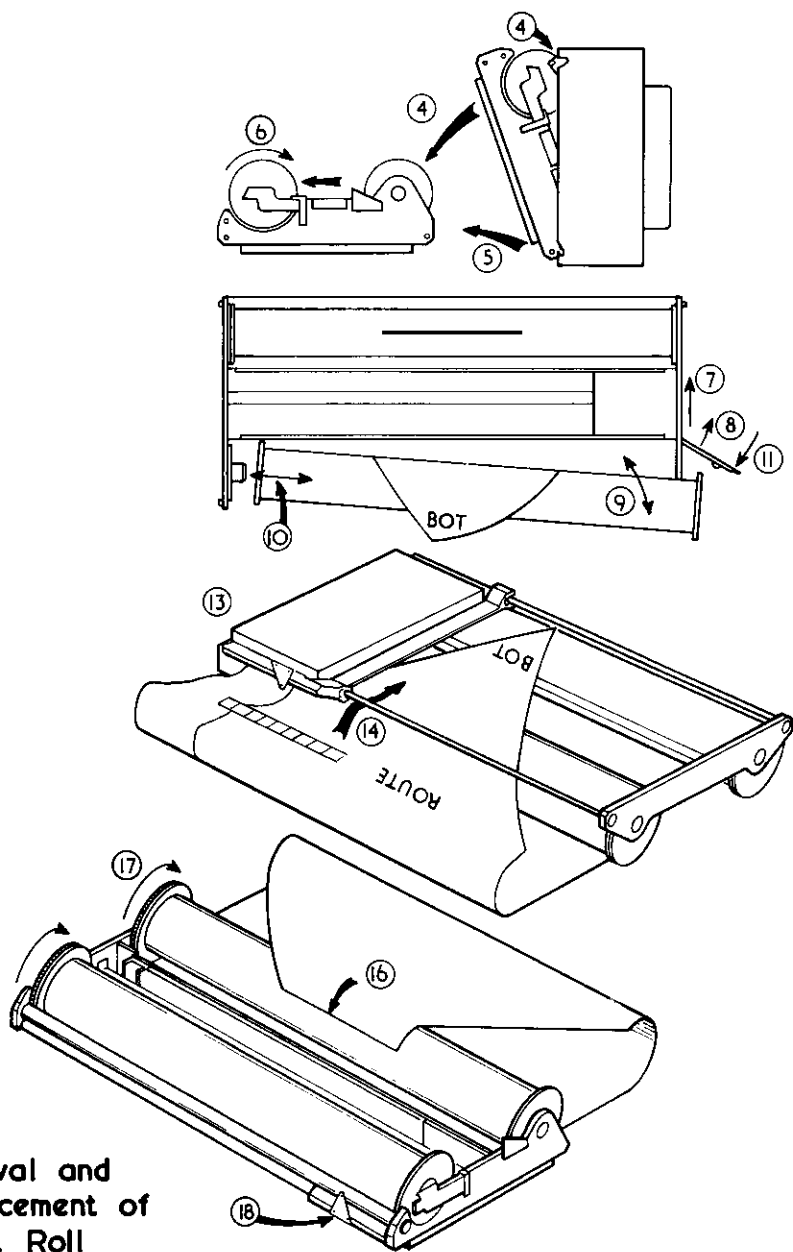

Fig.3
4.10. Removal and replacement of chart roll (Fig. 3)